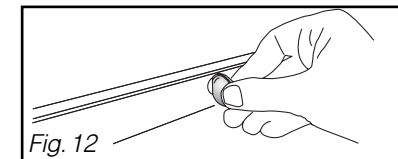

Fig. 12
- Use the side of a coin to unlock the tank (Fig. 12).